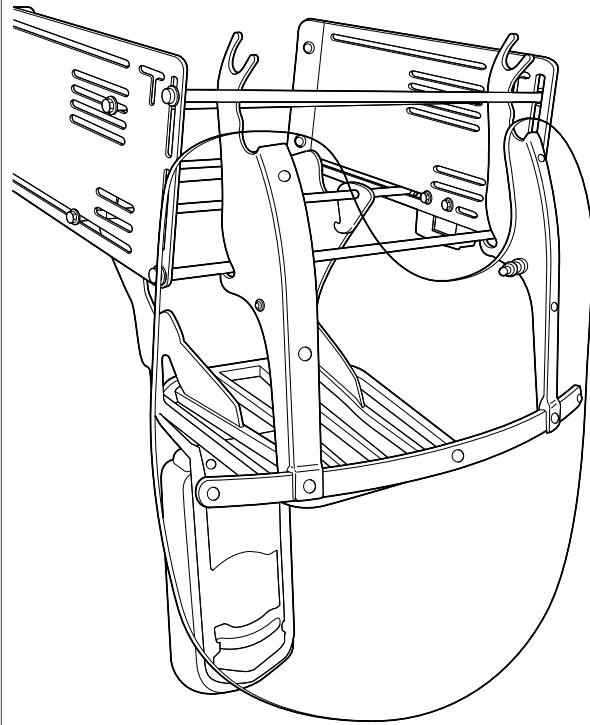

Figure 4. Wall Rack with Sissybar/luggage Rack and Detachable Windshield
5. See Figure 4. Detachable style windshields (Softail Heritage and Road King Classic) can be mounted directly to the rods on the front side of the wall rack.